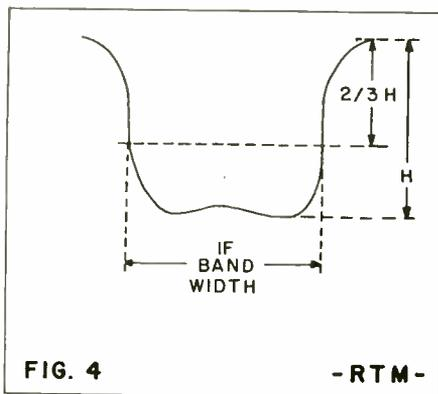

FIG. 4
to remove the self-limiting action of the ratio detector. Reconnect the capacitor as soon as the alignment is completed. (3) Connect the sync voltage output of the sweep generator to the EXT SYNC input terminal of the oscilloscope. (4) Set the oscilloscope internal sweep to the same frequency as the sync voltage output of the sweep generator. (5) Set the scope SYNC switch to its EXTERNAL position. (6) Set the SYNC AMPLITUDE control to about half maximum. (7) Set the VERTICAL and HORIZONTAL GAIN controls to half maximum. (8) Set the sweep generator to the IF value of the receiver, and set the generator sweep width to 300 Kc. (9) Advance the sweep generator output slowly, and adjust the oscilloscope controls for a single-lined, clear, stationary pattern. (10) The pattern, which shows the same selectivity characteristics as a broad-tuned amplifier, will have the general appearance of Fig. 4. Note that the bandwidth is measured at the point corresponding to two-thirds of the overall amplitude (h) of the response curve. Adjust the trimmers or slugs of the last IF transformer to give the bandwidth specified by the receiver
this procedure at each IF grid; and finally transfer the two generator outputs to the grid of the converter tube in the front end, adjusting the trimmers or tuning slugs of the 1st IF transformer. Presence of oscillation will be detected during adjustment as a wave superimposed upon the selectivity pattern. Preserve the ideal response curve (Fig. 4) as nearly as possible. Be on the lookout for trouble, such as loose connections, damaged IF coils or trimmers, or defective loading resistors when checking stage response.
(1) Set the sweep generator to some point within the FM band, such as 100 Mc. (2) Set the generator sweep width to 300 Kc. (3) Tune the receiver to the same frequency. (4) Adjust the trimmers or tuning slugs in the RF detector, and oscillator stages in the front end of the receiver for maximum height and proper bandwidth of the response pattern (Fig. 4) seen on the oscilloscope screen. (5) If the oscillator stage has a low-frequency series-padder capacitor, re-tune the generator and receiver to